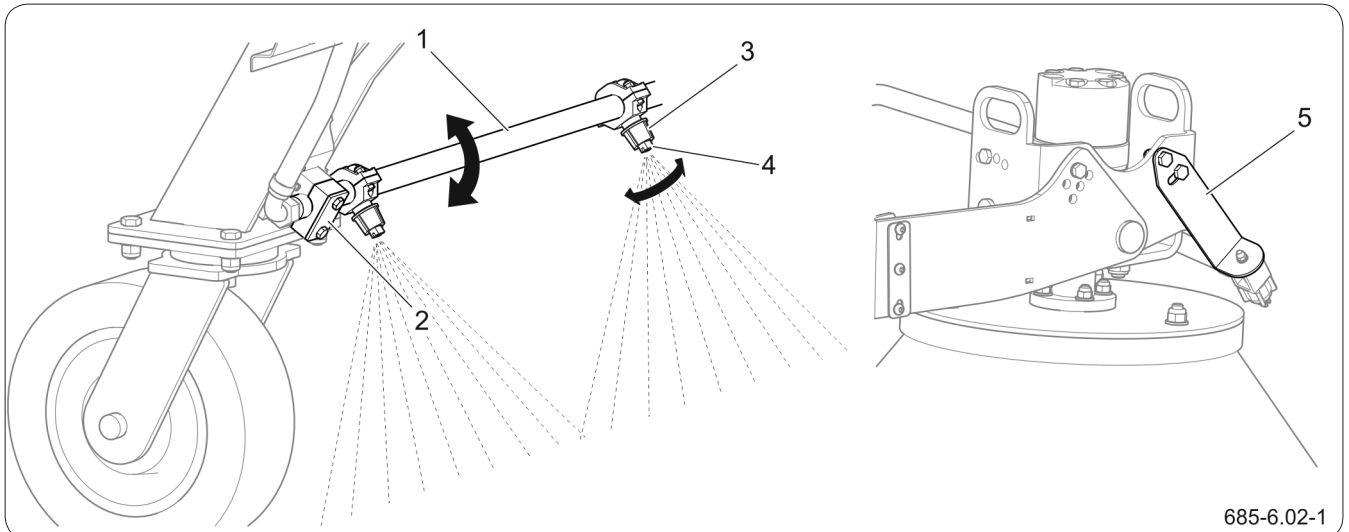

Figure 6.14 Filters in the sprinkler system
Sprinklers may need to be adjusted after repair or replacement. The roller brush nozzles should be positioned (Figure 6.14) so that they spray water with a slit perpendicular to the sweeping direction (tangential to the roller brush). Adjusting the angle of the roller brush sprinklers involves loosening the fixing (2) and rotating the tube (1).